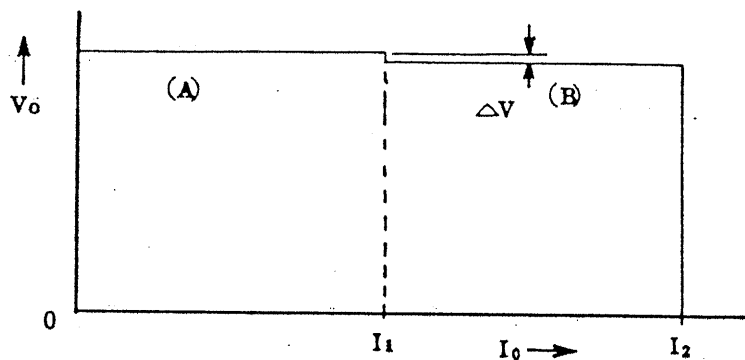

Figure 3-7. Parallel operation characteristics
The voltage and current characteristics when in the parallel operation are as shown in Figure 3-7. The unit (A) of a higher voltage operate until it is overloaded. When this unit is driven into the constant-current domain, its output voltage falls. When the output voltage of this unit has fallen to that of another unit (B), the output voltage of unit B changes from the overvoltage state (caused by unit A) into the normal state. Therefore, the load change causes the output voltage change of ΔV which is the difference of the setting voltages of units A and B, and consequently the ripple characteristics are degraded by the corresponding amount.